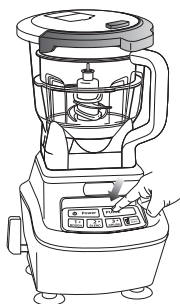

Fig. 5
- 8 Select the speed that best suits your needs. For best results, press the Pulse button in short intervals. (Fig. 5)